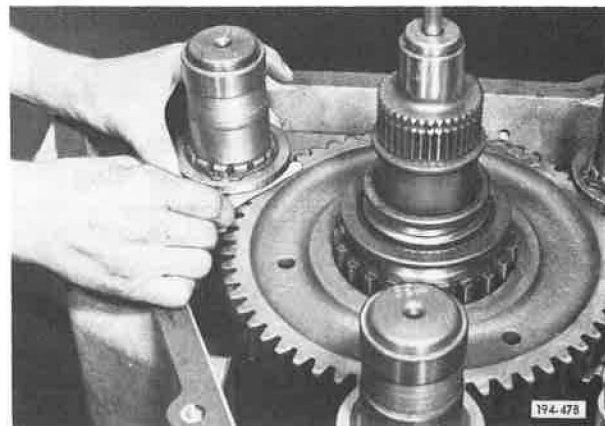

Figure 5-645. Checking End-Play Clearance
17. Check recommended end-play clearance (each countershaft) by inserting a feeler gage between first speed gear and countershaft selective thrust washer. See Figure 5-645. Hold each thrust washer squarely against its retaining snap ring when inserting feeler gage. Refer to "Screw Torques and Adjustment Chart" for selective thrust washers to obtain recommended end-play.